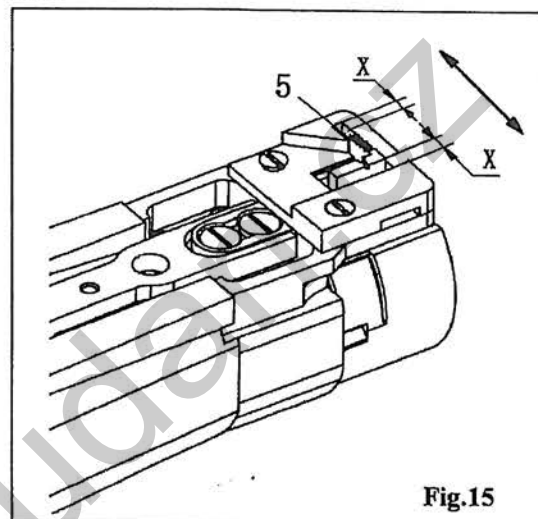

Fig.15
(2) Positioning the feed dog in the direction of sewing (Fig.15 Fig.16)